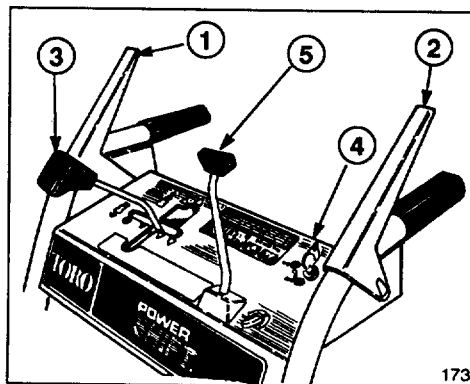

Figure 12
(Fig. 12)—Control has two positions: ENGAGE and DISENGAGE. To engage both auger and impeller, compress lever against right handle grip. To disengage, release lever.
**Traction Drive Control** (Fig. 12)—To engage traction (wheel drive) or activate power shift system, lever must be compressed against left handle grip. To stop traction, release lever.
**Speed Shift Control** (Fig. 12)—The control has a neutral position, four speeds forward and two reverse and also controls power shifting of wheels. To select speeds, move shift control to desired position.
**Auger Lock-Up** (Fig. 12)—When auger/impeller control and traction drive control are both compressed, the traction control locks the auger/impeller control down. Releasing the traction control releases the auger/impeller control.
(Fig. 12)—Rotate discharge chute control clockwise to move discharge chute to the right and counterclockwise to move chute to the left.
**Ignition Switch** (Fig. 12)—Switch has two positions: ON and OFF. Rotate key to ON position before starting engine. To stop engine, rotate key to OFF.
1. Move speed shift control to N (neutral) and throttle to FAST (Fig. 12).
5. Rotate ignition key to ON (Fig. 12).
1. Release traction and auger/impeller drive controls (Fig. 12).